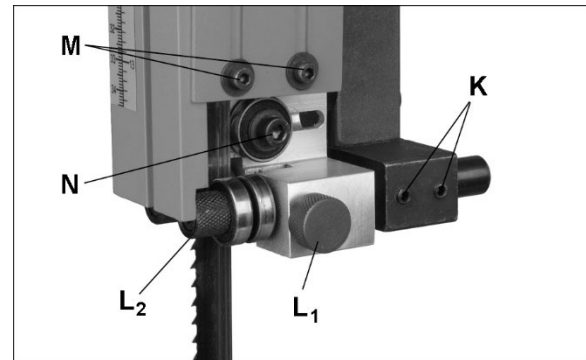
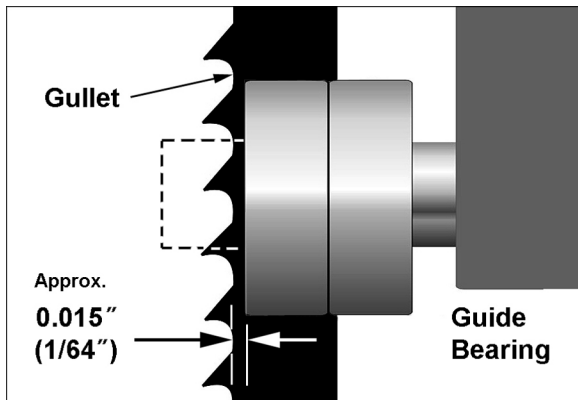

Figure 5-10: blade guide adjustment
Figure 5-11: guide bearing position
Refer to Figures 5-10 and 5-11.
4. Loosen two set screws (K, Figure 5-10) with 3mm hex wrench, and slide entire guide bracket until front of guide bearings are about 0.015” (1/64”) behind blade gullet (curved area at base of tooth). See Figure 5-11.
5. Tighten set screws (K, Figure 5-10). **NOTE:** Tighten each set screw alternately, in very small amounts until fully tight. Fully tightening one before the other may cause the guide bracket assembly to be skewed in relation to the blade. After tightening screws, make sure the center path of thrust bearing still aligns with blade.
6. If thrust bearing does not line up with blade, lateral adjustment of the entire guide bracket may be needed. Loosen and back off the socket head screw *on the other side* from the set screws (K) shown. Adjust the guide bracket, and use a combination of the set screws and socket head screw to secure the guide bracket in place.
Refer to Figure 5-10.
2. Loosen screws (M, Figure 5-10) with 3mm hex wrench and raise guard plate to expose thrust bearing.
3. Loosen screw (N) with 5mm hex wrench, and slide thrust bearing until it almost touches back of blade. (This blade-to-bearing gap can be set in similar fashion as the side guides, with business card or dollar bill.)
Movement summary: Loosen screws on guide bracket (P) to adjust bearing assembly (refer to Figure 5-11). Loosen screws (R) and slide guide bearings in relation to blade. The thrust bearing is moved forward and backward by loosening set screw (S) with 4mm hex wrench and rotating knob (T). Retighten set screw (S) to secure position.